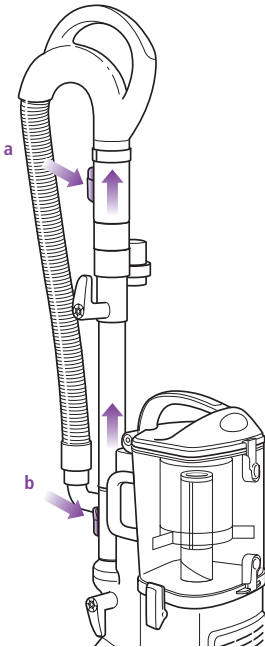

Fig. 12
- 2 Press the handle release button **(a)** and pull the handle up or press the extension wand release button **(b)** and pull the extension wand up. (Fig. 12)